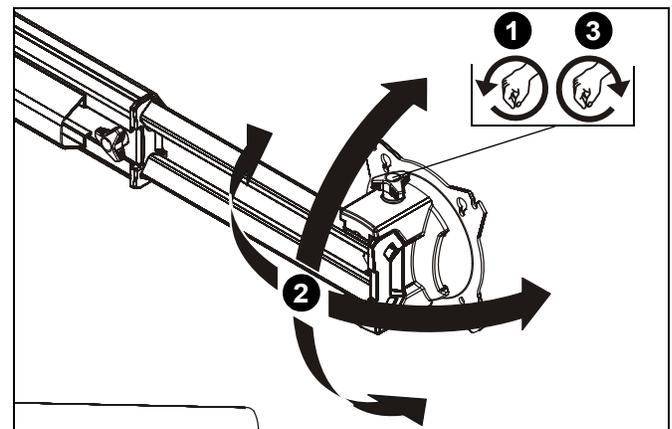

**Figure 27**
1. Loosen knob on top of outside faceplate assembly until faceplate can slide freely along array arm. (See Figure 27)
2. Adjust lateral position as desired. (See Figure 27)
3. Tighten knob to secure lateral position. (See Figure 27)